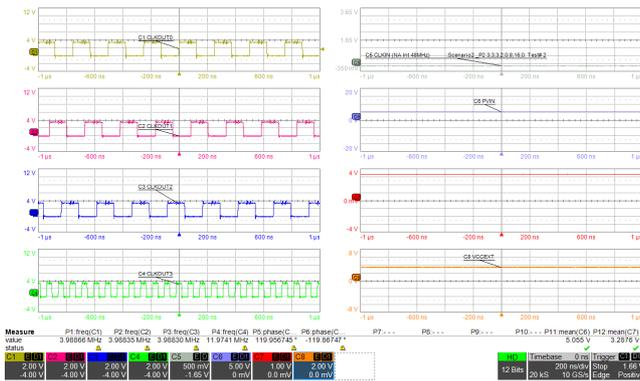

Figure 18. Example Scenario 2: Frequency and Phase
- Scenario 2 (Figure 18 and Figure 19) – Three outputs have the same frequency, one output at a different frequency